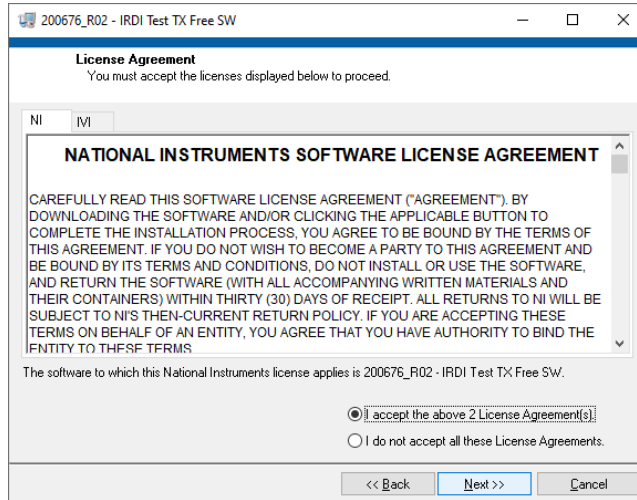

FIGURE 4-7 LICENSE AGREEMENT ACCEPTANCE
STEP 3	Accept License Agreements – see Figure 4-7. Click Next >>.